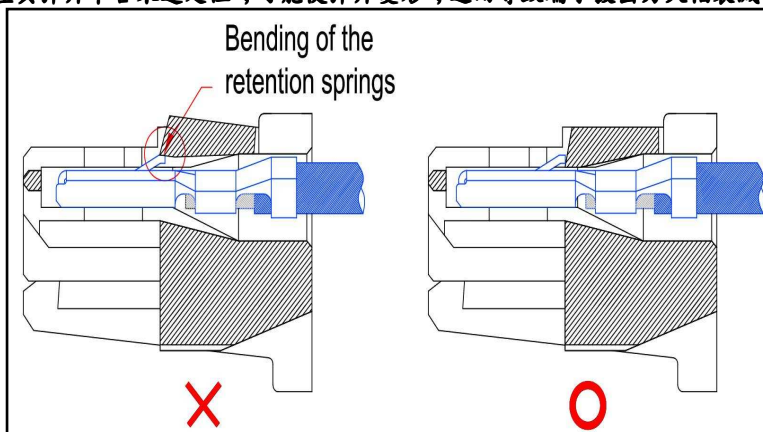

figure 1.1.3
- ※ Misalignment of the crimped contacts should be avoided because of possible bending of the retention springs, and therefore impaired contact retention in the contact cavity. (see figure 1.1.3)